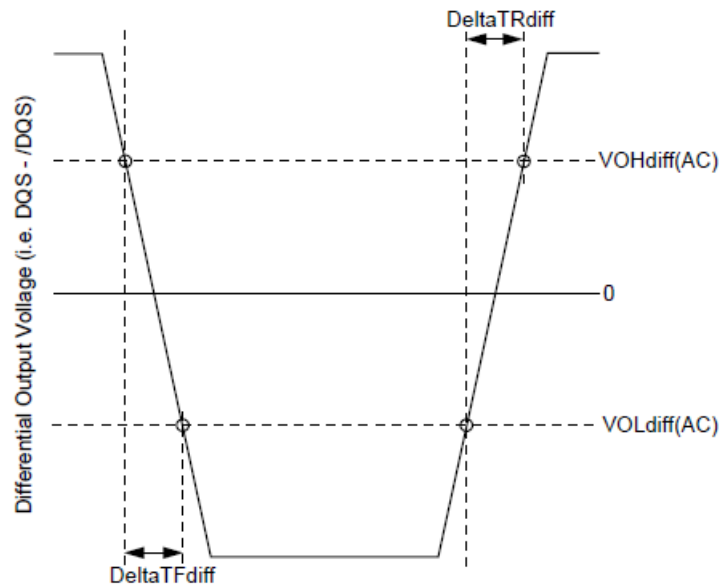

Figure 28 — Differential Output Slew Rate Definition
3. The output slew rate for falling and rising edges is defined and measured between VOL(AC) and VOH(AC).
With the reference load for timing measurements, output slew rate for falling and rising edges is defined and measured between VOLdiff(AC) and VOHdiff(AC) for differential signals as shown in Table 41 and Figure 28.